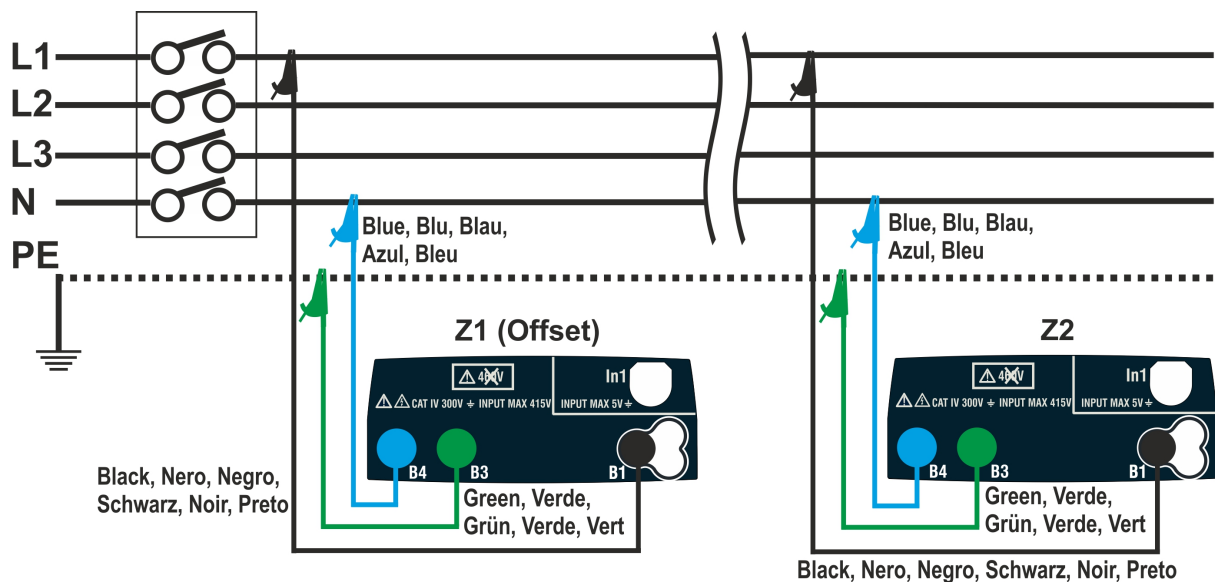
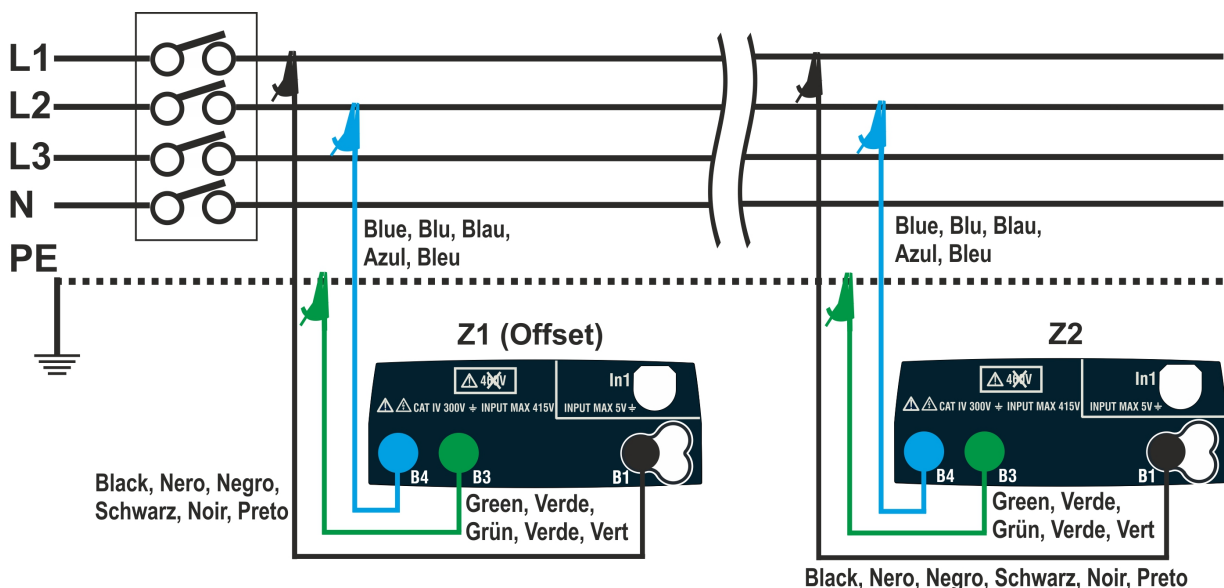

Fig. 40: Connection of the instrument for L-N mode voltage drop measurement
Fig. 41: Connection of the instrument for L-L mode voltage drop measurement
- Connect the instrument to the initial point of the mains being tested (typically downstream of a protection device) according to Fig. 40 or Fig. 41 in order to carry out the first **Z1 (Offset)** impedance measurement. In this case, the instrument will measure the impedance upstream of the initial point of the mains being tested, taking it as starting reference. The following screen (referred to L-L measurement) appears on the display.
7. Connect the instrument to the final point of the mains being tested according to Fig. 40 or Fig. 41 in order to measure the **Z2** impedance at the end of the line. Note the previously measured Z1 (Offset) value displayed.